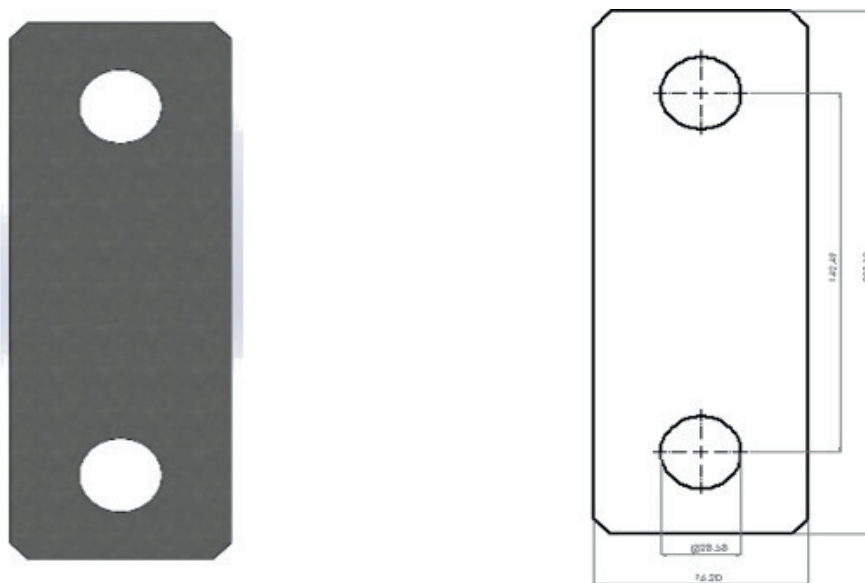

Figure 54. C-Cab XXL Leveling Shims
1. **Gather and Position Templates:** Locate the templates #1, #2, #3 & #4. Position them as illustrated in Figure 54. Make sure that they are properly assembled and fit together correctly.
10. **Leveling Shims for C-Cab XXL:** Install shims as required for leveling the C-Cab XXL. Refer to Figure 54 for shim details.